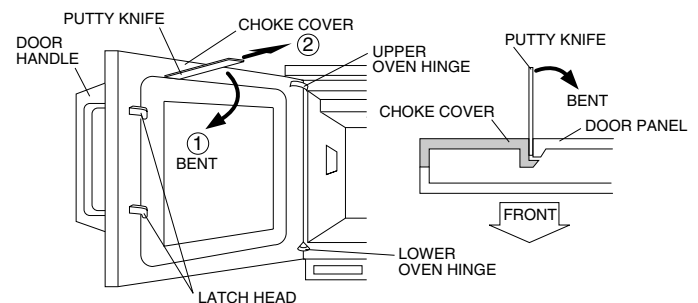

Figure C-5. Choke cover
1. Open the door and insert a putty knife (thickness of about 0.5mm) in gap between the choke cover and corner portion of door panel to free engaging parts. Refer to Fig. C-5.